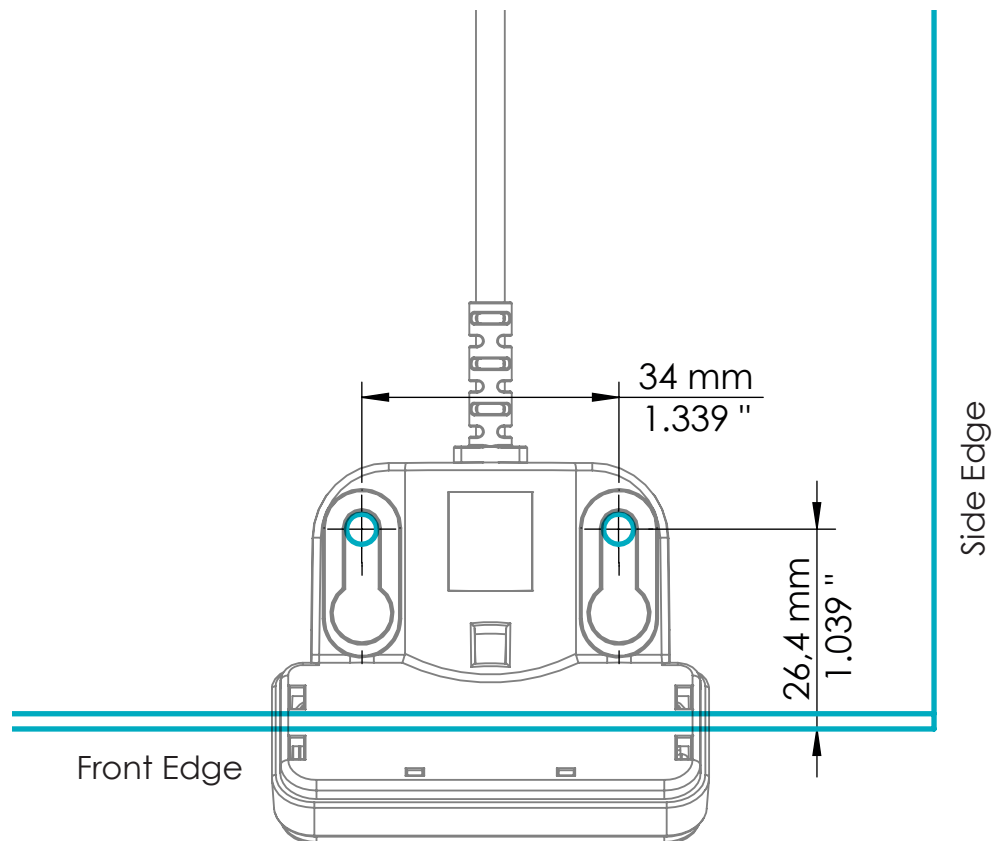

Fig. 7: Drilling Template, DMUI-TOUCH-B-UD
2. Insert the Strain Relief into the designated slot on the Handset (Fig. 7).